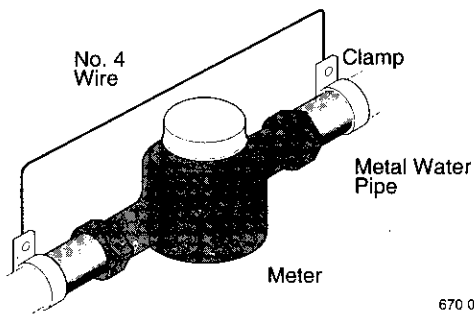

Figure 3C
**IMPORTANT:** The cold water pipe you use as a ground must have metal continuity to electrical ground. If continuity is interrupted by plastic, rubber, or other electrical insulators; such as hoses, fittings, washers or gaskets (including water meter or pump), a metal bypass must be used. Any electrically insulated connector should be jumped (as shown in Figure 3C), with a length of No. 4 wire clamped securely at both ends.